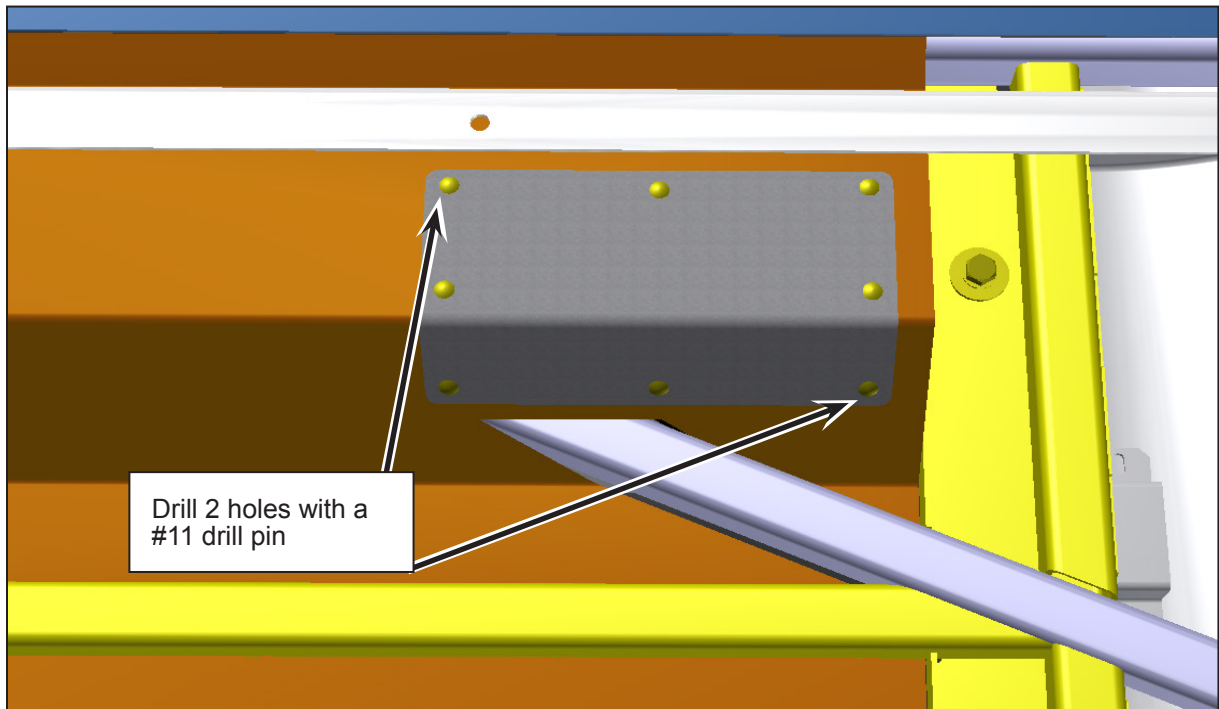

Figure 5 - Holes to Drill
- 1.6. Use angled access panel N93775 as a template to drill two holes, using a #11 drill pin, around the access hole made in the previous step. See Figure 5.